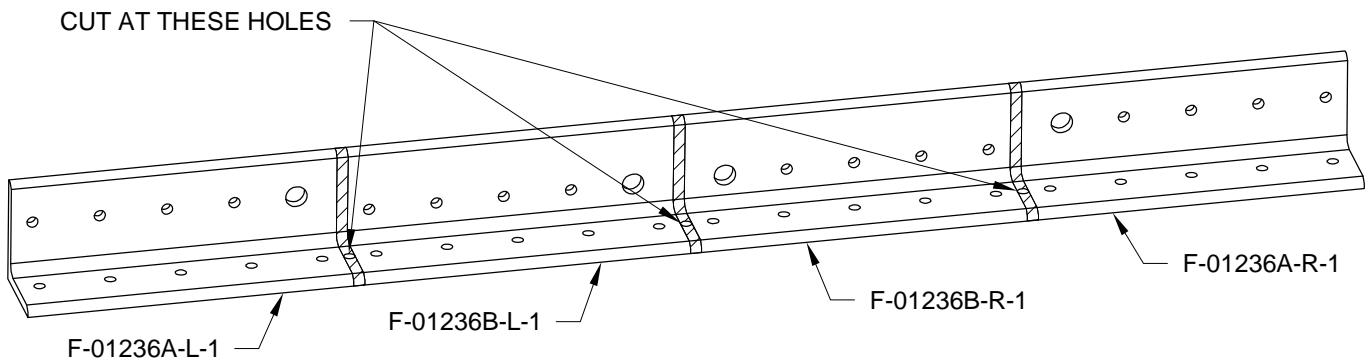

FIGURE 1: SEPARATING F-01236-1
Step 1: Separate F-01236-1 into four angles by removing the hatched areas shown in Figure 1.